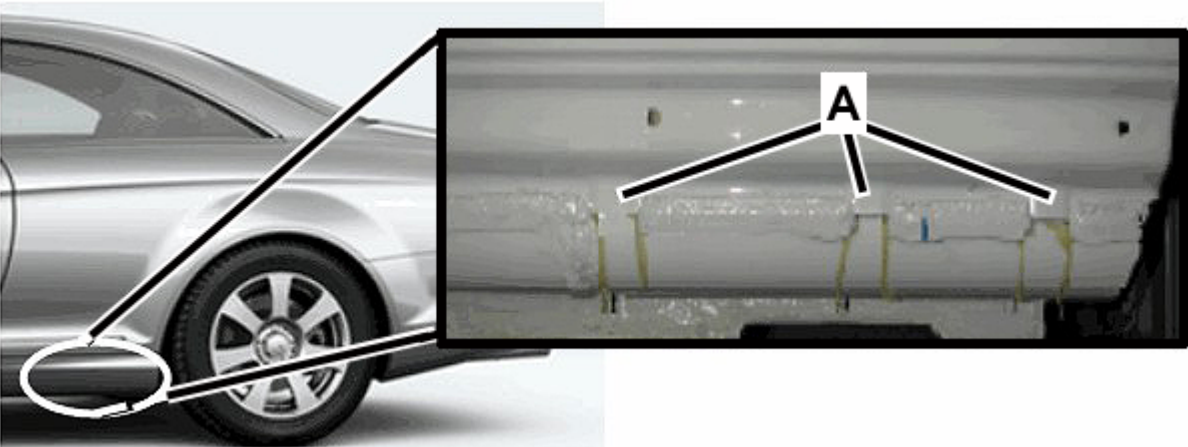

Figure 1
3. Clean the drain holes (A, Figure 1) of excess preservation agent by pushing a **plastic** cable tie repeatedly in and out of each drain hole (A) until the drain holes (A) are clear.